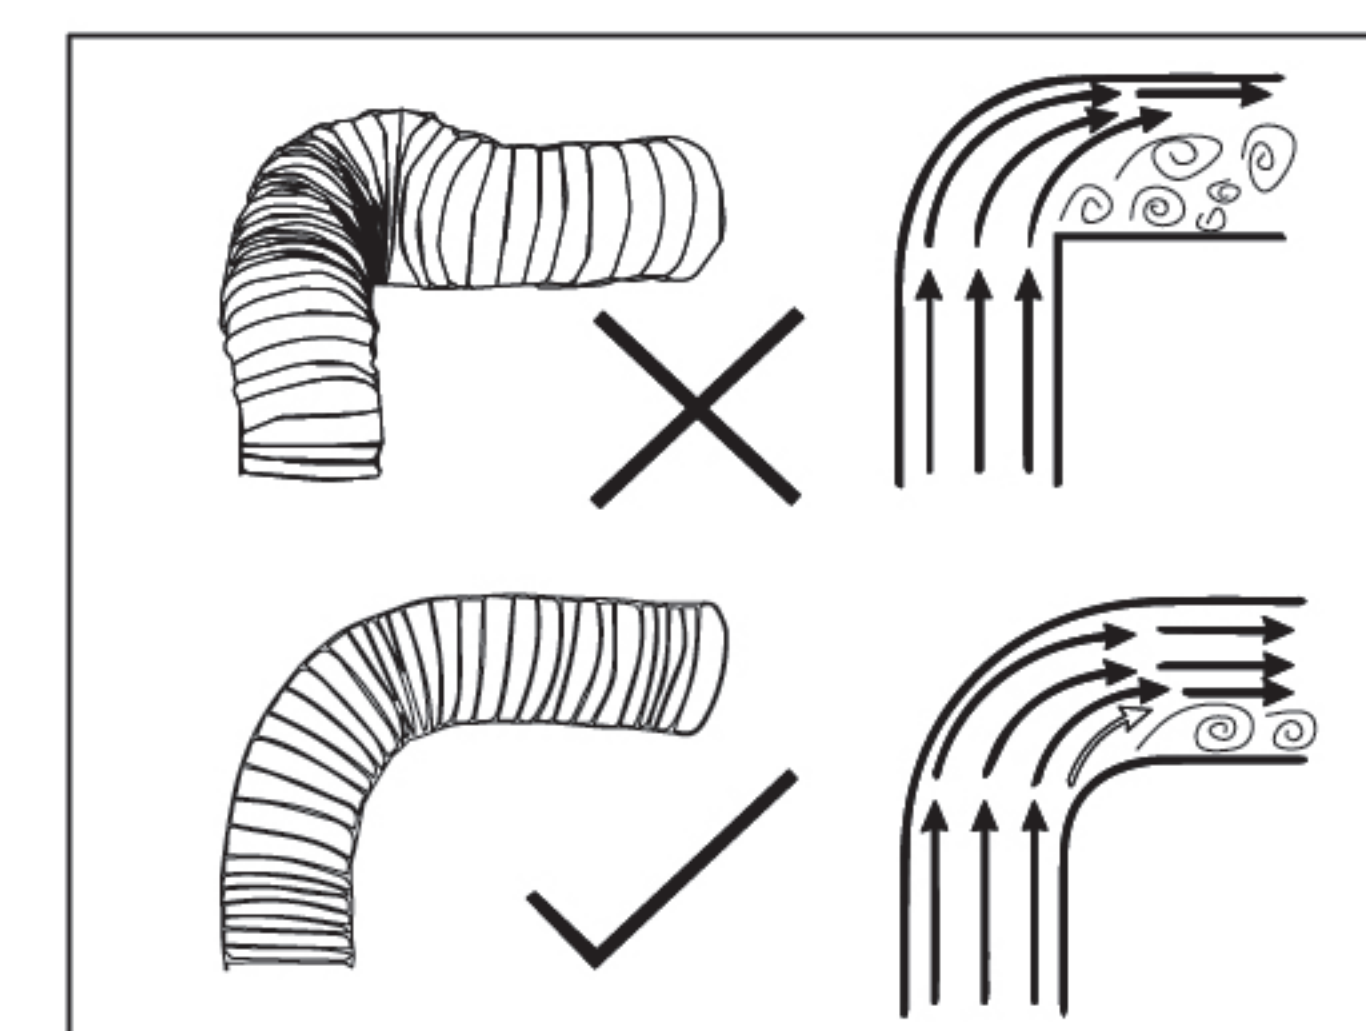

fig11
5. Arrange the exhaust duct: the aluminum foil exhaust duct and the reserved smoke tube or wall hole shall be sealed tightly to prevent smoke leakage, the smoke tube shall be free from extrusion, deformation and small-angle elbow, the number of elbows shall not exceed 2, and the smoke tube shall be straightened and fixed.(fig11)